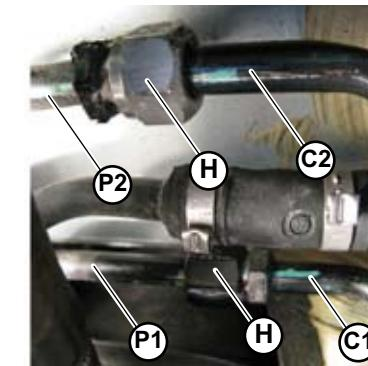

Fig.20
6. To disconnect the **C1** central delivery pipe connections and the **C2** central return pipe connections from the **P1** rear delivery pipes and **P2** rear return pipes, unscrew the respective nuts (**H**-Fig.20).